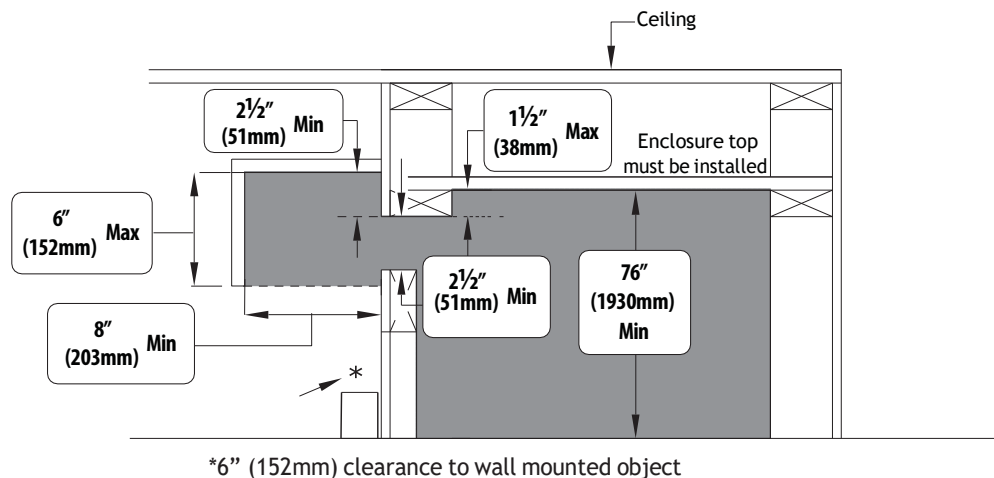

Figure 3.18, Lowered Air Discharge Opening with Overhang
- Figure 3.18 shows an alternative installation method where you cap off the fireplace cavity so the air discharge opening can be located further down the fireplace chamber. 1-1/2" (38mm) is the maximum drop for framing the air discharge opening to the fireplace enclosure top. This avoids trapping heat in the upper areas of the vented cavity enclosure. Framing the outlet any lower than 1-1/2" (38mm) will cause overheating and create a fire hazard.
- Figure 3.18 is shown with an air discharge overhang in front of the air discharge opening. This optional installation method can provide a means to visually hide the air discharge opening.